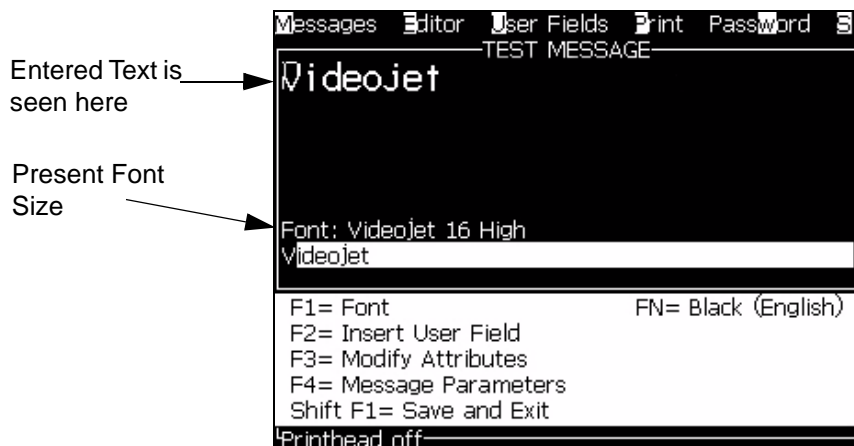

Figure 5-5: Create New Message
- 4 Press the *Enter* key. The Message Editor screen appears (see Figure 5-5 on page 5-20).